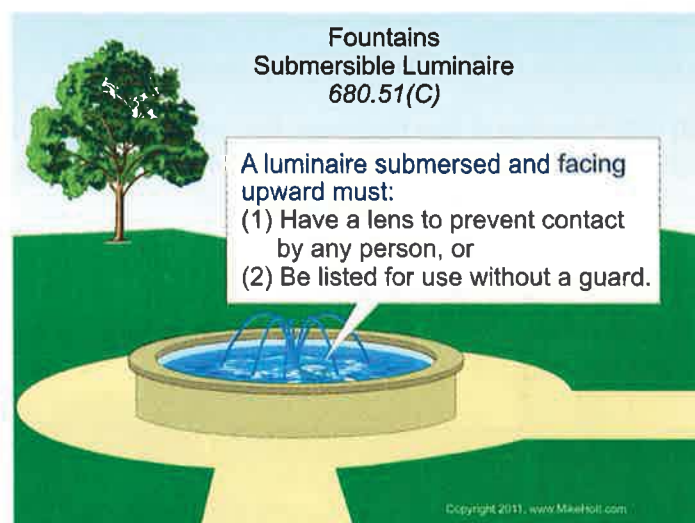

Figure 680-46
(C) Luminaire Lenses. Luminaires must be installed so the top of the luminaire lens is below the normal water level unless listed for above-water use. **Figure 680-46**